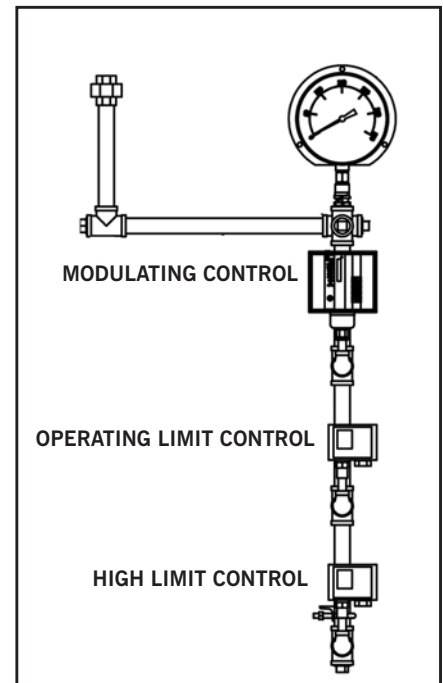

FIGURE 1-5. Pressure controls
1. Operating Limit Pressure Control (**Figure 1-5**): Breaks a circuit to stop burner operation on a rise of boiler pressure at a selected setting. It is adjusted to stop or start the burner at a preselected pressure setting.
2. High Limit Pressure Control (**Figure 1-5**): Breaks a circuit to stop burner operation on a rise of pressure above a selected setting. It is adjusted to stop the burner at a preselected pressure above the operating limit control setting. The high limit pressure control is normally equipped with a manual reset.
3. Modulating Pressure Control (**Figure 1-5**): Senses changing boiler pressures and transmits the information to the modulating motor to change the burner firing rate when the manual-automatic switch is set on AUTOMATIC.